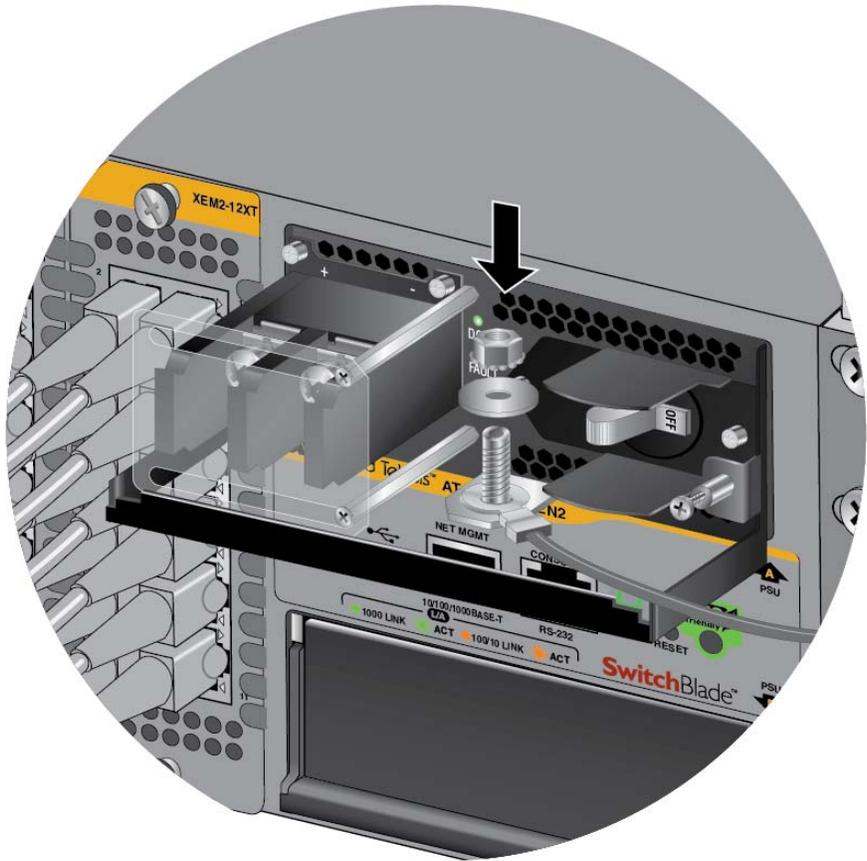

Figure 74. Securing the Grounding Wire
6. Secure the grounding wire with the nut and washer removed in step 4, with an 8 mm wrench. Refer to Figure 74 on page 127.